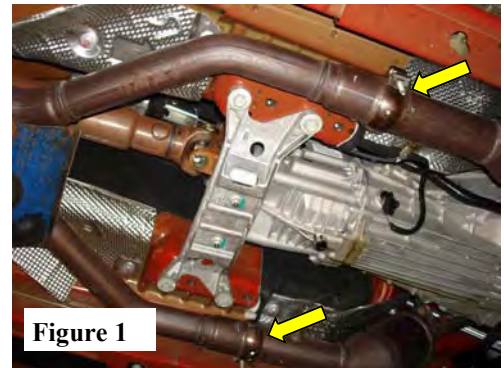

Figure 1
1. Loosen (2) front ball-clamps in front of H-Pipe. (See Fig.1)